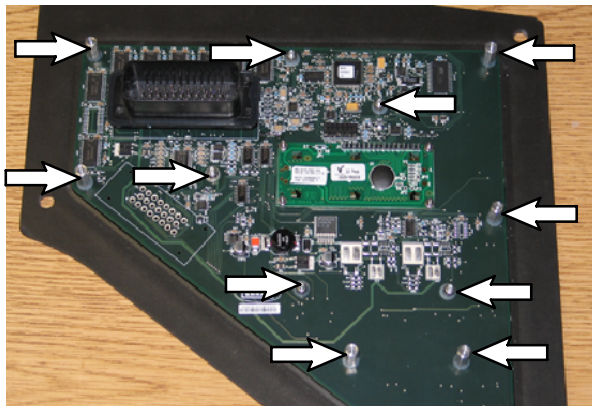

FIG. 4
2. Remove the five fasteners and six standoffs holding the circuit board to the panel assembly. Set the fasteners, standoffs, and eleven nylon washers aside. Refer to Fig. 4.
6. Use the hardware from Step 2 to install the circuit board onto the instrument panel label (1). Refer to Fig. 4.